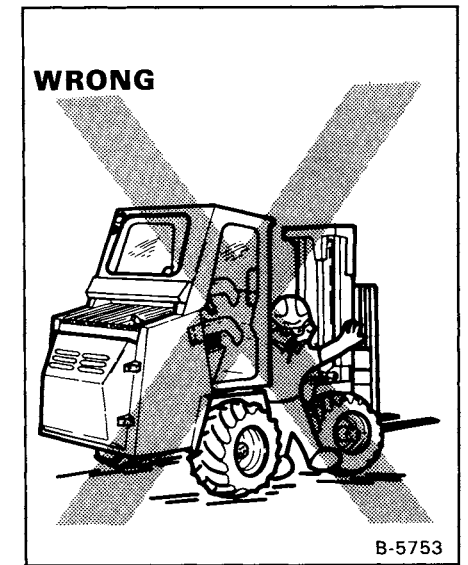

Fig. 32 WARNING - Pivot Area
6. Do not let anyone in or near the pivot area without the steering frame lock connected (Fig. 32).